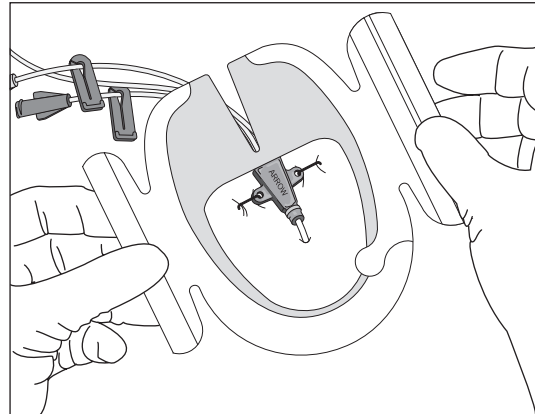

Figure 5
- Adhere center of transparent window over insertion site, while holding notched portion off the skin (refer to Figure 5).